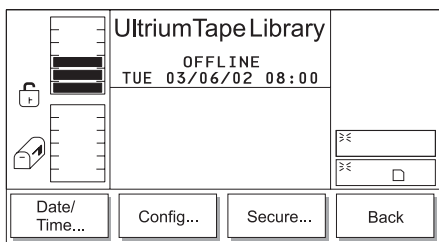

Figure 14-52. Utils Submenu
2. Press the button below the **Utils** softkey. The Utils Dialog displays (see Figure 14-52).